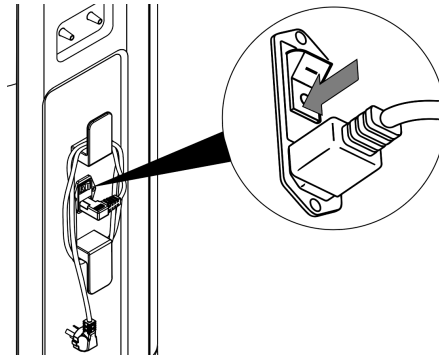

Figure 34 To Remove Power
- c. Push the power switch to the OFF position (Figure 34).